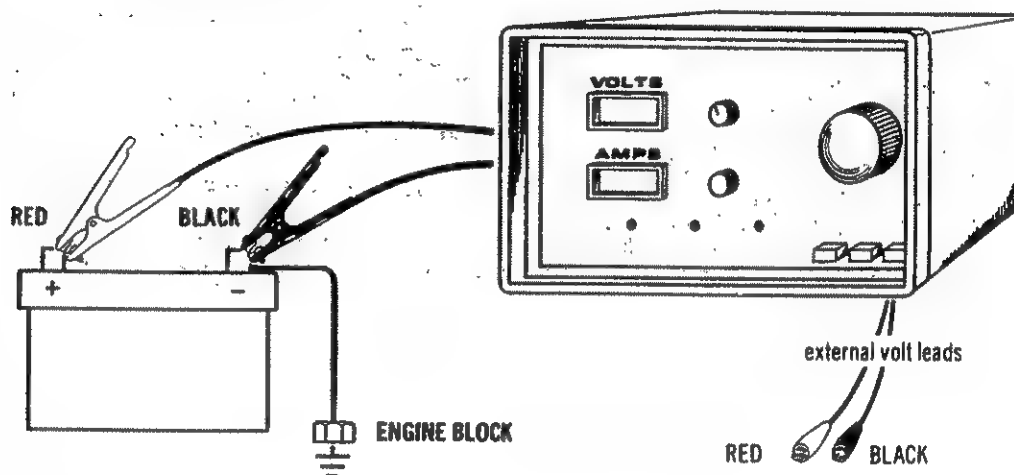

Figure 10
3. Connect "Battery Cables" to battery as shown in Fig. 10 below.